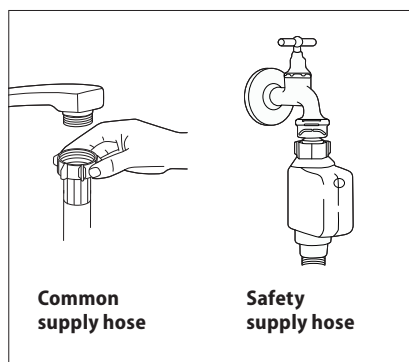

Fig. 18
4. Connect the inlet hose to the water supply according to Fig. 18.
- Connect the inlet hose to the tap with 3/4" thread (Fig. 18). Make sure that the inlet hose is not bent, crushed or entangled.